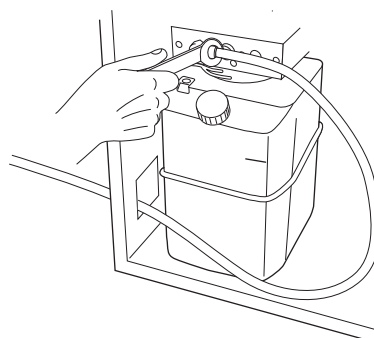

Figure 3.3 Connecting the hydraulic hose to the L-coupling
- 3 **Tighten the L-coupling to the hose (see figure 3.3).**